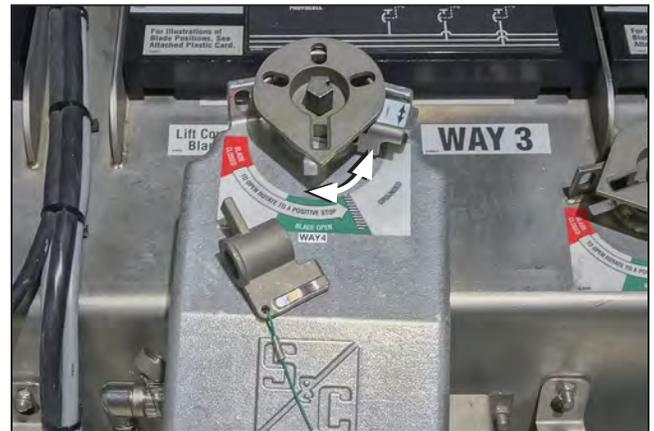

Figure 19. The motor operator recharged and in the **Open** position.
STEP 7. When operating from **Closed** to **Open** position, the operating handle must be rotated all the way to the line, as shown on the label to recharge the mechanism. See Figure 18 on page 14. For the three-pole fault interrupter, the operating handle cannot be removed until the mechanism is fully charged. See Figure 19.